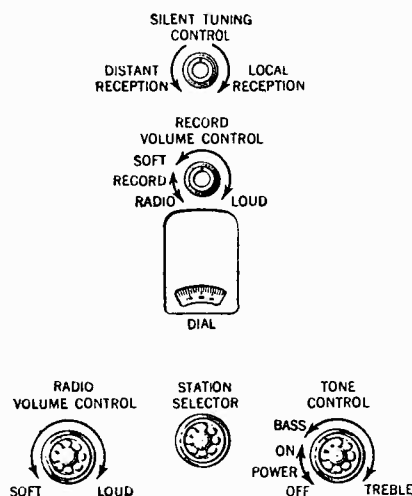

Figure 2
The radio operating controls are shown in Figure 2. Proceed as follows:
**Standard (78 R. P. M.) Records**—Refer to Figures 2 and 3:
**Long Playing (33 $\frac{1}{3}$  R. P. M.) Records**—Refer to Figures 2 and 3. Repeat the procedure outlined under "Standard (78 R. P. M.) Records," with the following exceptions:
(1) Use only *Chromium Needles for Long Playing Records* (identified by the orange shank).
(2) Set the speed shifter inward, for 33 $\frac{1}{3}$  R. P. M. This should be done while the turntable is rotating.